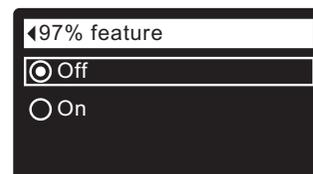

FIG. 91
8c. 97% feature: If the desired option already has a dot next to it (See Figure 91, go to Step 9. Otherwise, press the DOWN (▼) or UP (▲) buttons to scroll to the other option, then press SELECT (O) to choose it. If this feature is On, the conditioner/refiner will automatically recharge when 97% of capacity is used, at any time of day. Default is Off.